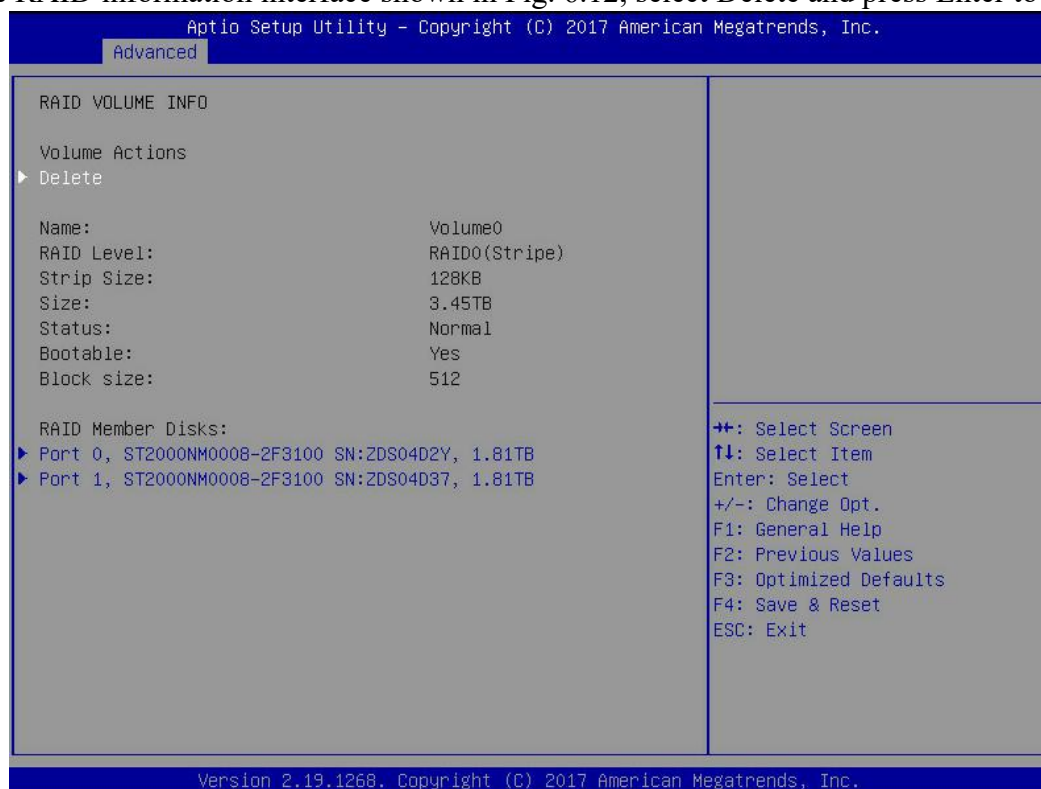

Fig. 6.12
- Enter the RAID information interface shown in Fig. 6.12, select Delete and press Enter to delete RAID.